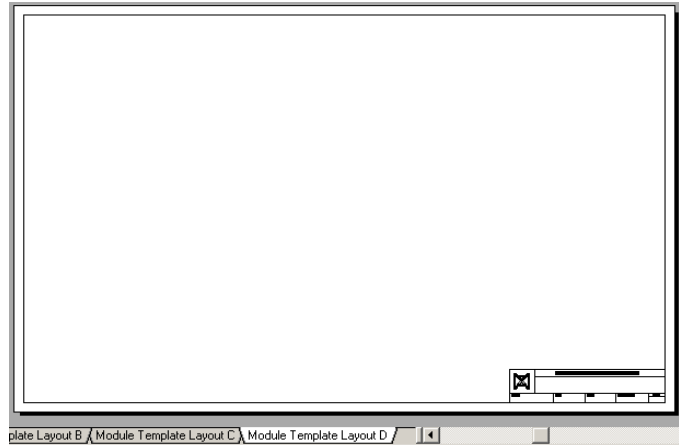

Figure Step 7
Step 7 Enable layout Module Template Layout D as shown in Figure Step 7.